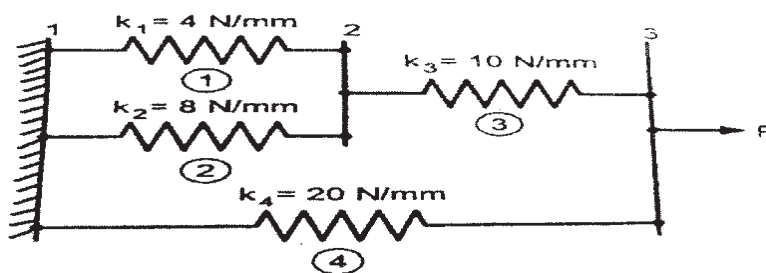

Fig. 2b
- b) A system of spring as shown in fig 2b. One end of the assembly is fixed and a force of $P=1000$ N is applied at the other end. Using finite element method, determine [8]